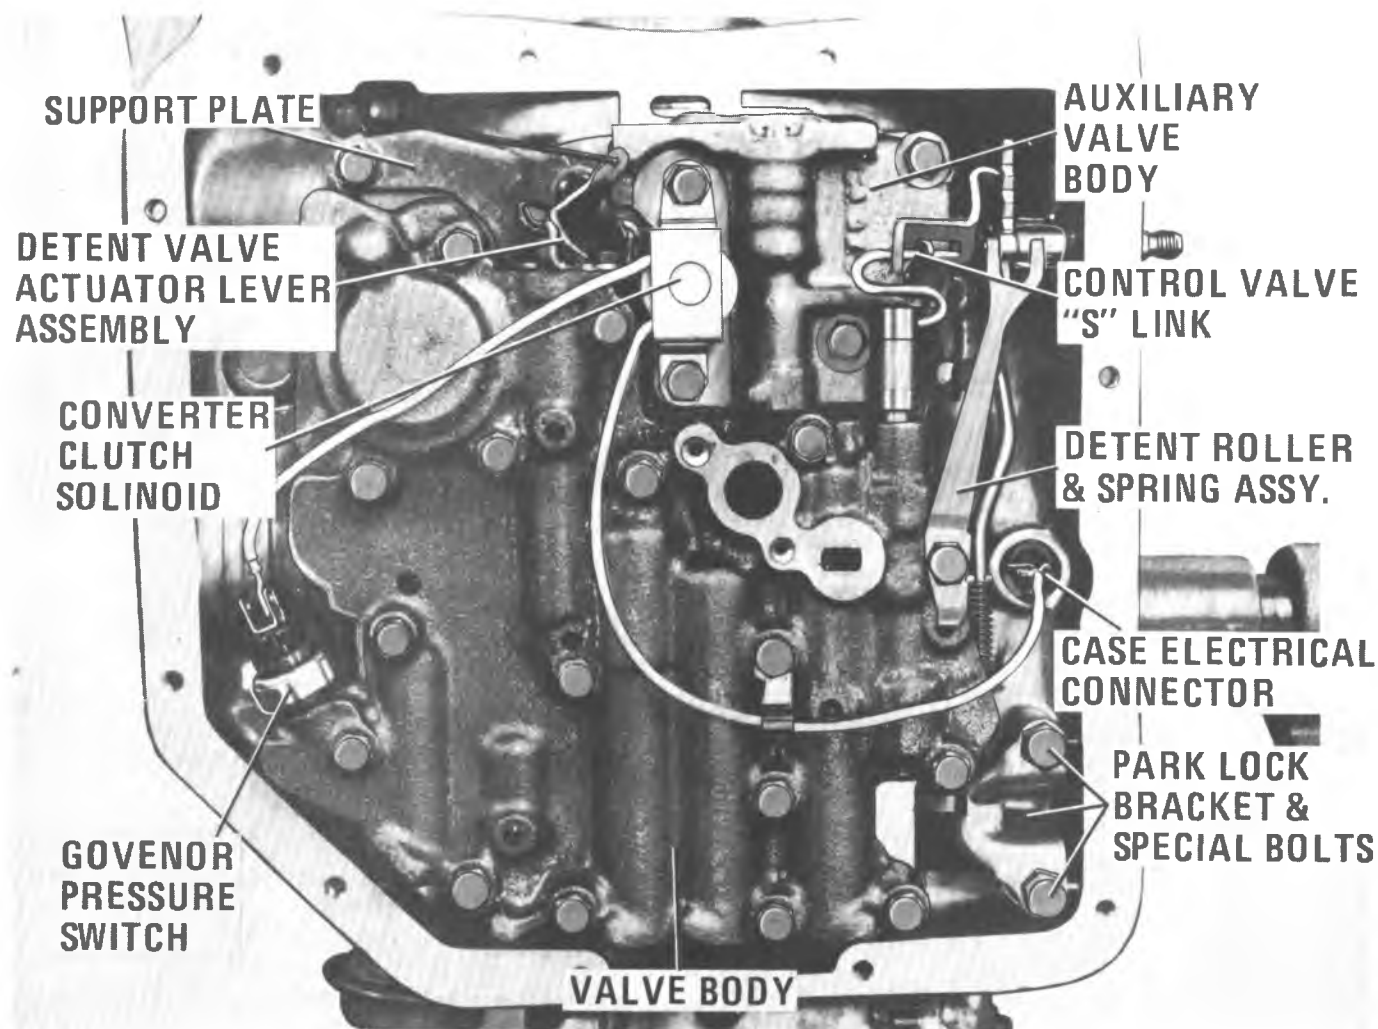

Figure 7A5-14 Valve Body Detent Roller, Park Bracket and T.C.C. Components
6. Using a screw driver and hammer, gently tap along governor cover lip, remove governor cover and "O" ring seal (Figure 7A5-15). Discard seal. Do not pry screwdriver between case and governor cover - case damage may result.